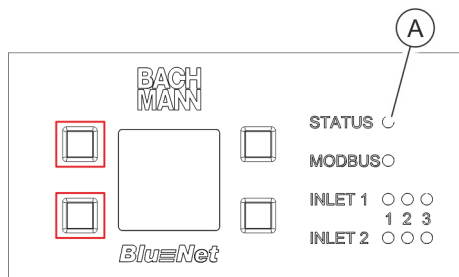

Fig. 85: Display with control buttons
5. ▶ Press the buttons to the left of the display during the restart (Fig. 85/red marking).
6. ▶ Wait until the status LED lights up white (Fig. 85/Ⓐ).
7. ▶ Release the two buttons to the left of the display (Fig. 85/red marking).